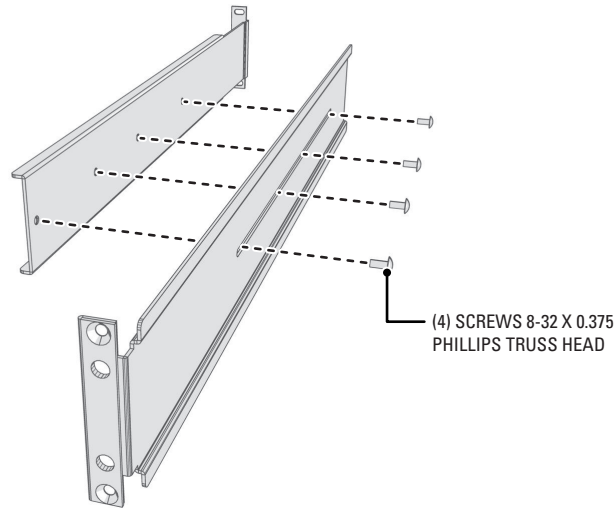

Figure 10. Assembling a Support Rail
3. Attach one front-mount rail to one rear-mount rail. Make sure the rails are mounted back to back, as shown in Figure 10. Depending on rack depth, use either three or four 8-32 x 0.375-inch Phillips truss head screws for each rail set. Leave the screws untightened until later in the installation.